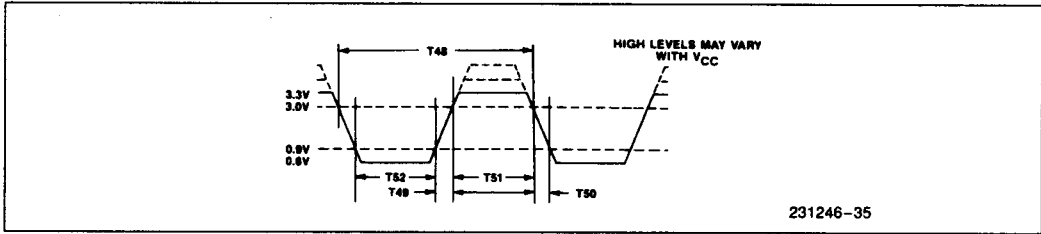

Figure 34. Tx̄C Input Voltage Levels for Timing Measurements
14. 82C501 compatible levels, see Figure 34